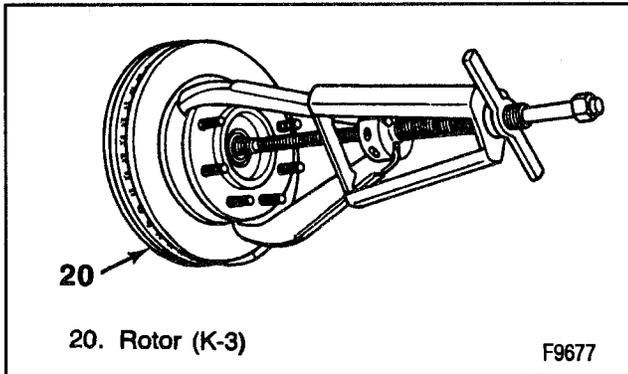

Figure 32—Removing Rotor from the Spindle (K-3)
5. Using wheel puller, remove rotor assembly (20) (Figure 32).